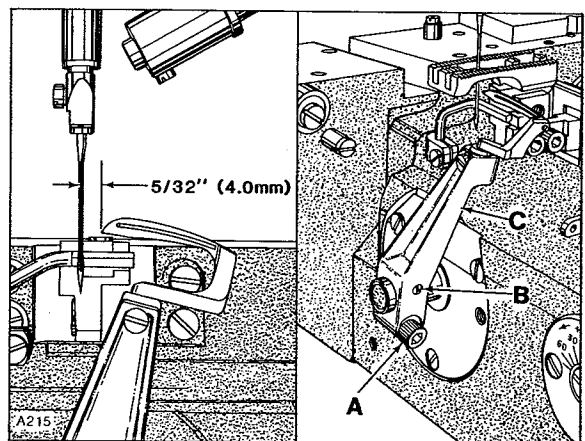

Fig. 9
Insert a new needle, type and size specified. With looper positioned at EXTREME right end of travel, distance from centerline of needle to point of looper should be  $5/32$  inch (4.0mm). Adjustment can be made by loosening screw (A, Fig. 9) and turn screw (B) clockwise to increase looper gauge or counterclockwise to decrease. Apply pressure to the upper portion of looper holder (C) to the left while making this adjustment and locking with screw (A).